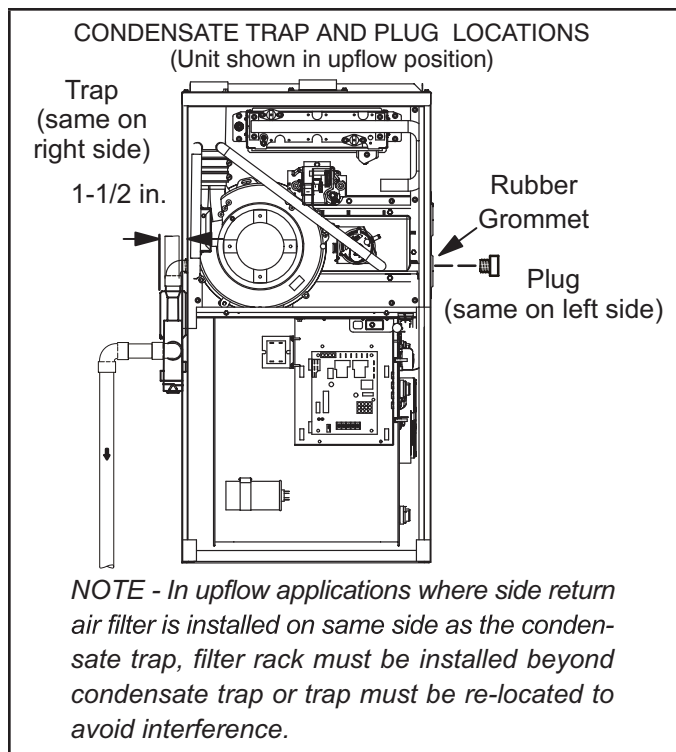
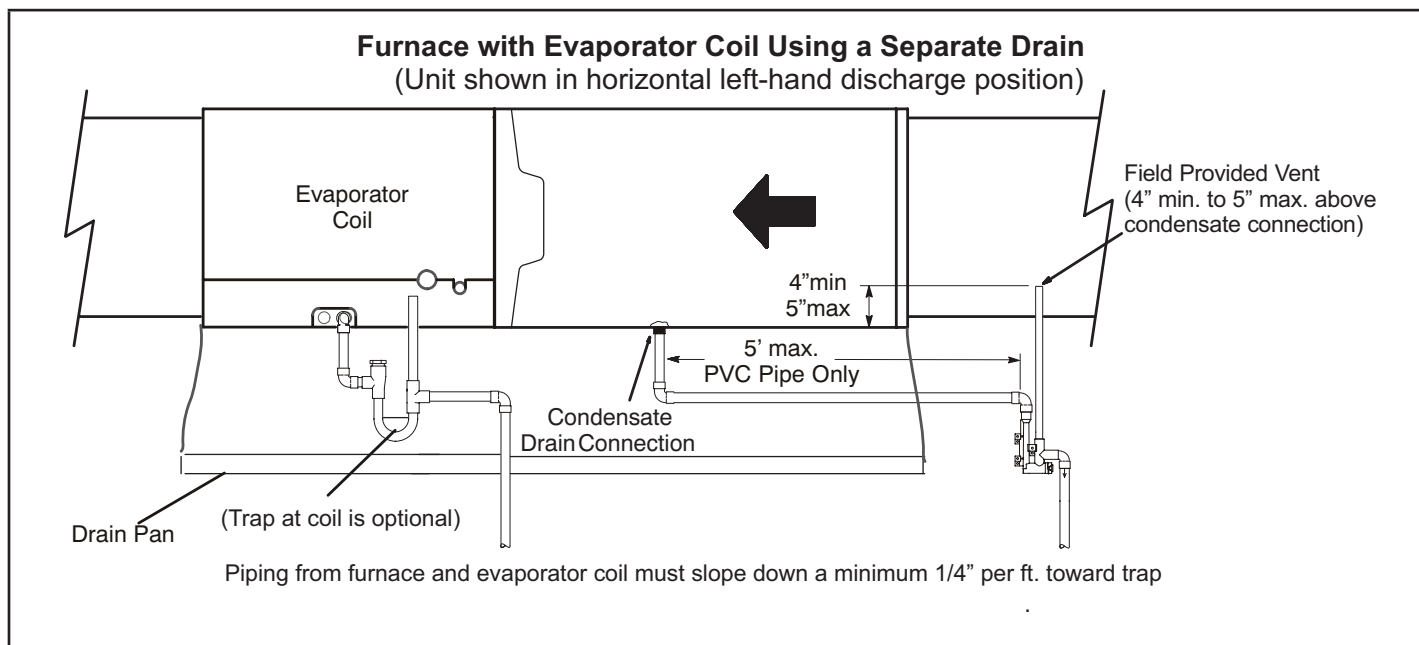

FIGURE 46
**FIGURE 48**
This unit is designed for either right- or left-side exit of condensate piping in upflow applications. In horizontal applications, the condensate trap must extend below the unit. An 8" service clearance is required for the condensate trap. Refer to FIGURE 46 and FIGURE 48 for condensate trap locations. FIGURE 54 shows trap assembly using 1/2" PVC or 3/4" PVC.
- 2 - Use a large flat head screw driver or a 1/2" drive socket extension and remove plug (FIGURE 46) from the cold end header box at the appropriate location on the side of the unit. Install provided 3/4 NPT street elbow fitting into cold end header box. Use Teflon tape or appropriate pipe dope.